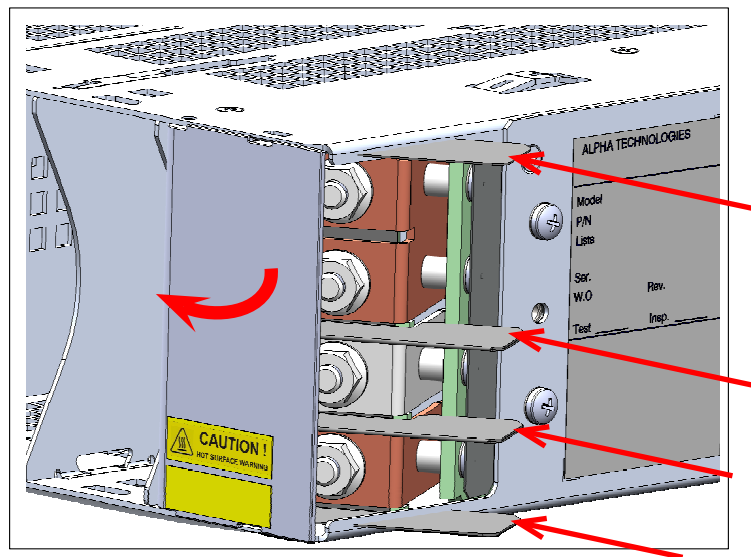
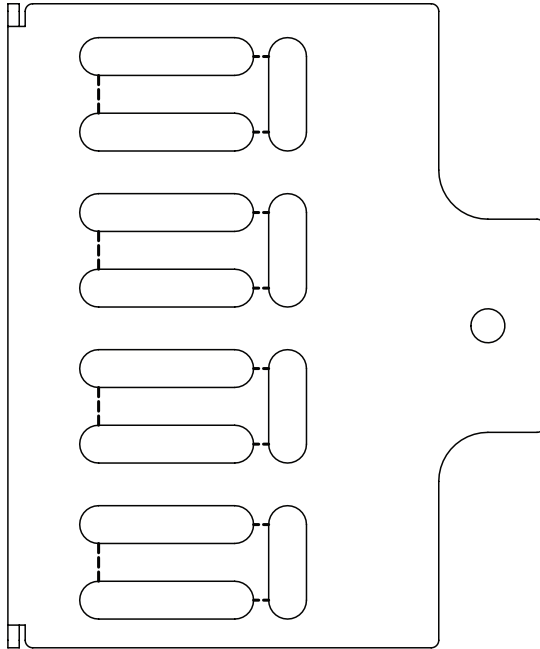
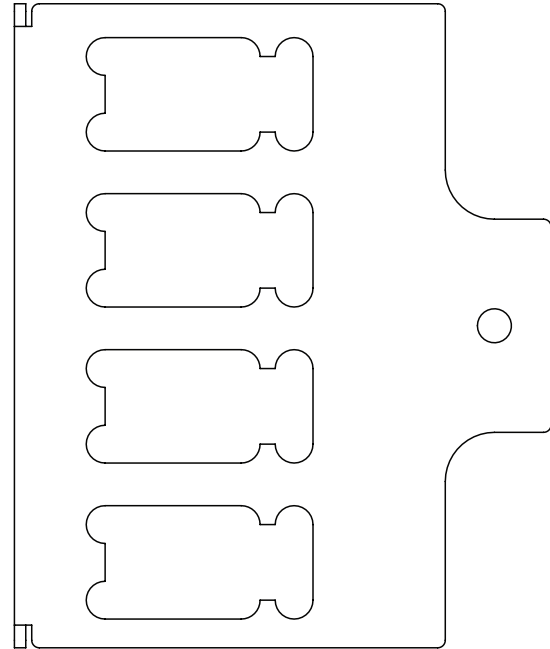

Figure 16: Formex separators between the inputs
Figure 17: Cut lines for cable input
Figure 18: Cover cut complete
4. Trim the side cover between the slots as required for the cables to fit through. See Figure 17 and Figure 18.
The cut out guidelines illustrated in Figure 17 and Figure 18 are for reference purposes only, the actual trimming should be performed in a manner to assure minimal clearance around the incoming cables relative to their specific size. Maintaining this minimal clearance (6.35 mm; 0.25 in.), will prevent accidental contact with the supply voltages and assure compliance with user accessibility requirements.
7. When reinstalling the side cover the black Formex separators (shown in Figure 16), should poke through the new openings (Figure 18) in the cover along with the cables.